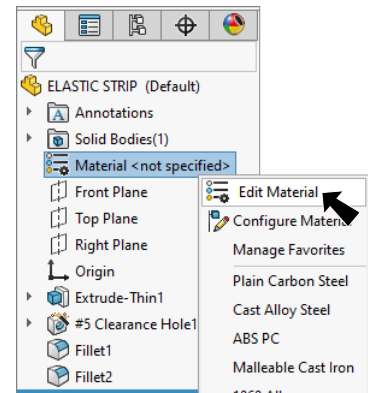

Fig. 26
Step 1. Right click **Material**  in the Feature Manager and click **Edit Material**, Fig. 26.